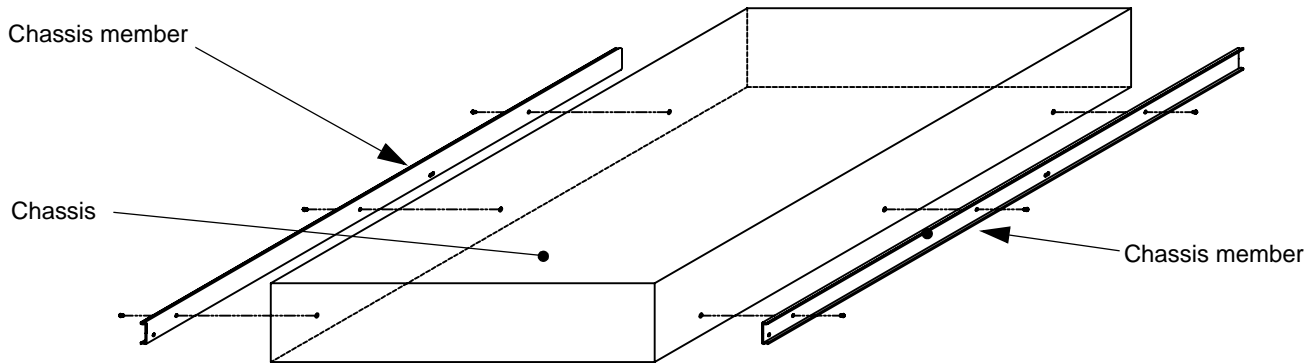

Figure 1
Remove the chassis members from the slides and attach the chassis members to the chassis. Use (6) M3 × 4 mm pan-head PHILLIPS® screws. See Figure 1.